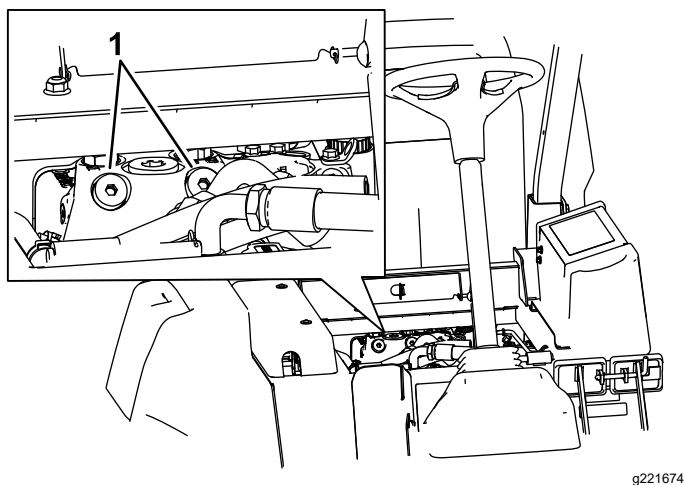

Figure 39
1. Raise the seat and locate the bypass valves, which are located below the front of the fuel tank (Figure 39).